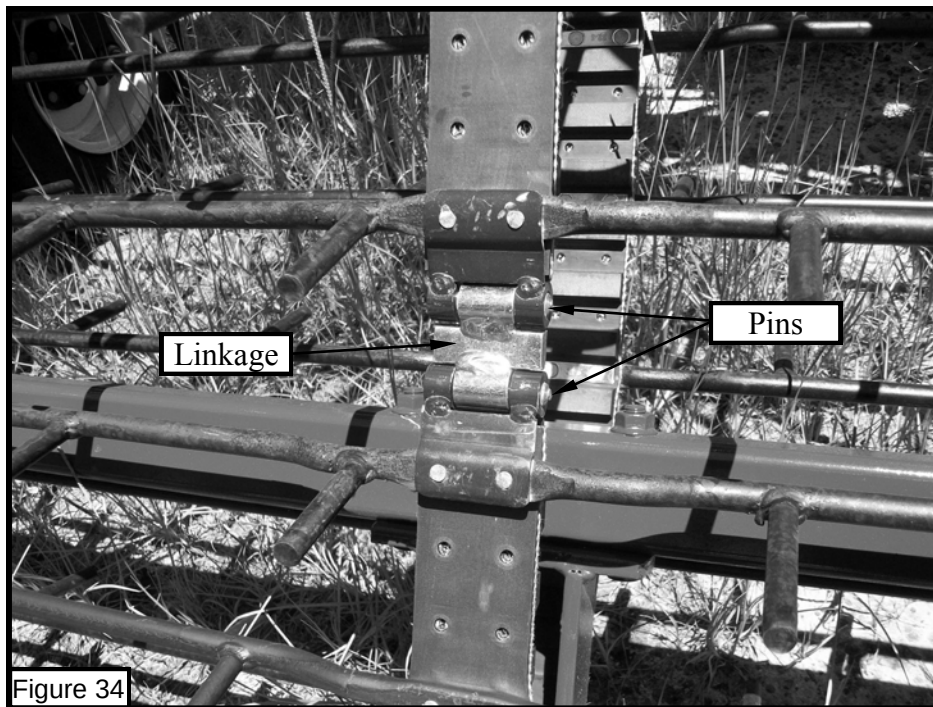

Figure 34
6. Check the conveyor belt linkage for wear and proper alignment before starting up inverter each day. If linkage pin comes out of hole, loosen belt tension and pull each end of belt to realign hole so pin can be reinserted. If pin is bent or worn replacement of pin and linkage may be required before operating the machine. Refer to figure 34.